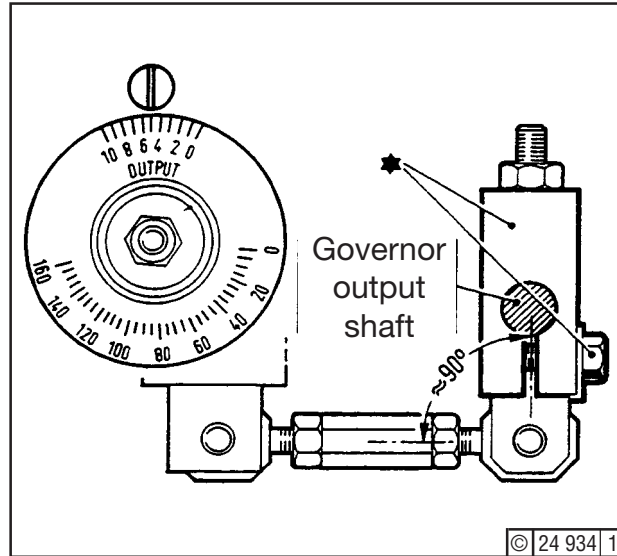

Fig. 12
9. Turn governor output shaft to graduation 5 (midposition) - Fig. 12 -, then fasten lever C11 (*) on output shaft in roughly vertical position.